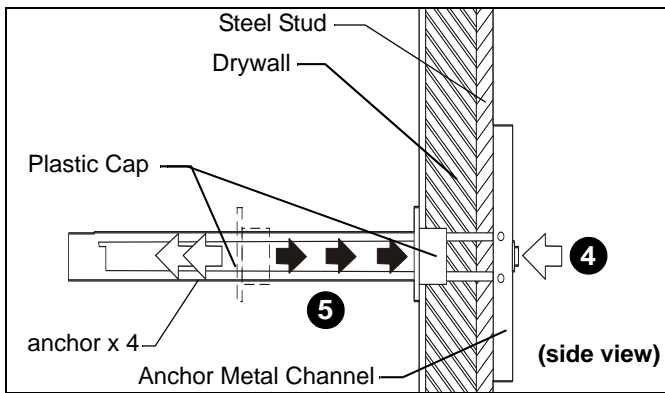

Figure 6
4. Holding plastic straps on anchor, pull anchor away from wall until channel rests flush behind wall making sure anchor channel is positioned vertically on stud. (See Figure 6)
5. Slide plastic cap on anchor towards wall until flange of cap is flush with wall. (See Figure 6)